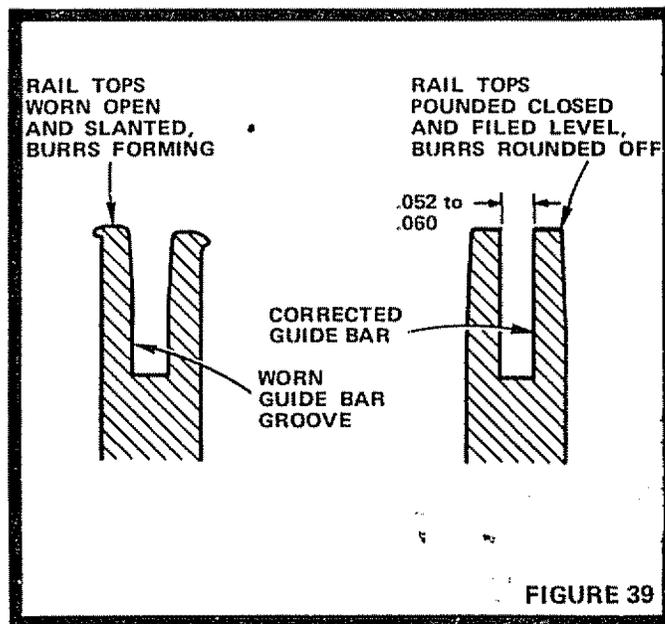

FIGURE 39
1. Chain Cutter and Link bottoms riding on Guide Bar Rails will normally roll some Bar Material to the outside of the Rails especially in actual cutting area of Guide Bar. These "burrs" should be removed as they form or they will chip away during use taking more Bar material with them. Check Bar for burrs at each Chain sharpening (Fig. 39).
- a. File uneven Rail top wear flat, perpendicular to Guide Bar (Fig. 39).
- b. Hammer worn, open Rails closer together to restore correct Chain Groove-between .052 and .060 inch (Fig. 39). NOTE: MAKE SURE CHAIN RUNS EASILY IN CORRECTED CHAIN GROOVE BEFORE REASSEMBLY.